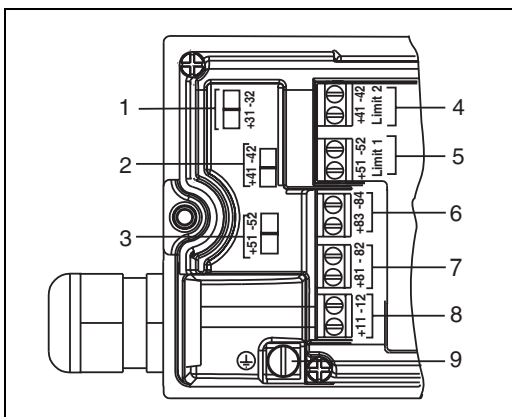

Fig. 18 Screw terminals
1. Remove the cable sheath at the cable end. Cut the (green/yellow) protective ground conductor (1) and the two 4...20 mA signal lines (2) to the specified length and remove approx. 6 mm of the insulation.
2. Put the protective hose (4) on the ferrite tube (3).
3. Insert all wires through the cable gland (6) and the ferrite tube (3). Make sure that the end of the cable sheath (5) protrudes into the connection compartment. Fasten the cable gland.
4. Fasten the protective ground conductor (1) with the grounding screw and connect the 4...20 mA signal lines (2) to the signal terminals +(11)/-(12) (see Fig. 18 on page 23 and chapter 3.3.5).